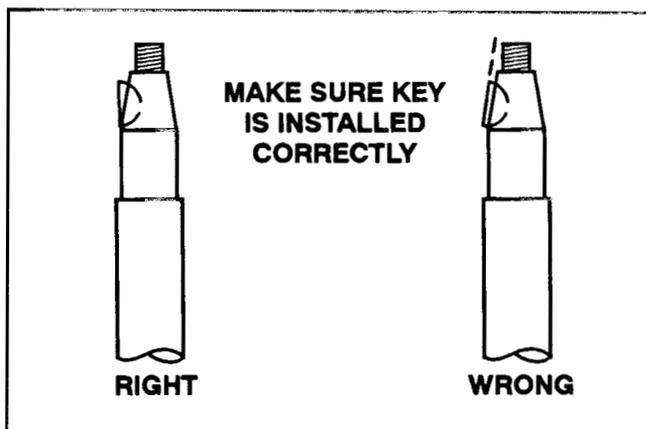

Figure 53
2. Make sure key is installed correctly (Figure 53).